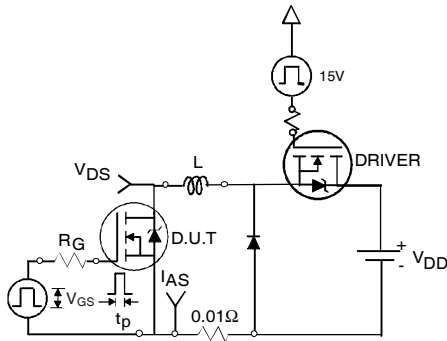

Fig 12a. Unclamped Inductive Test Circuit
- ③ $I_{SD} \leq 75A$, $di/dt \leq 340A/\mu s$, $V_{DD} \leq V_{(BR)DSS}$, $T_J \leq 175^\circ\text{C}$.
- ④ Pulse width $\leq 1.0\text{ms}$; duty cycle $\leq 2\%$.
- ⑤ $C_{oss \text{ eff.}}$ is a fixed capacitance that gives the same charging time as C_{oss} while V_{DS} is rising from 0 to 80% V_{DSS} .
- ⑥ Limited by T_{Jmax} ; see Fig.12a, 12b, 15, 16 for typical repetitive avalanche performance.
- ⑦ This value determined from sample failure population. 100% tested to this value in production.
- ⑧ This is applied to D²Pak, when mounted on 1" square PCB (FR-4 or G-10 Material). For recommended footprint and soldering techniques refer to application note #AN-994.
- ⑨ R_{θ} is measured at T_J of approximately 90°C .
3. Equation below based on circuit and waveforms shown in Figures 12a, 12b.